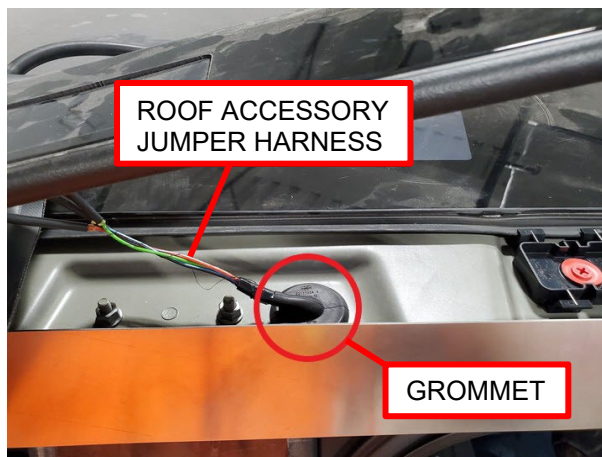

Figure 6
6. Use a small flat head screwdriver to release the grommet that attaches the roof accessory jumper harness to the vehicle (Figure 6).
8. Reinstall the grommet that attaches the roof accessory jumper harness to the vehicle (Figure 6).